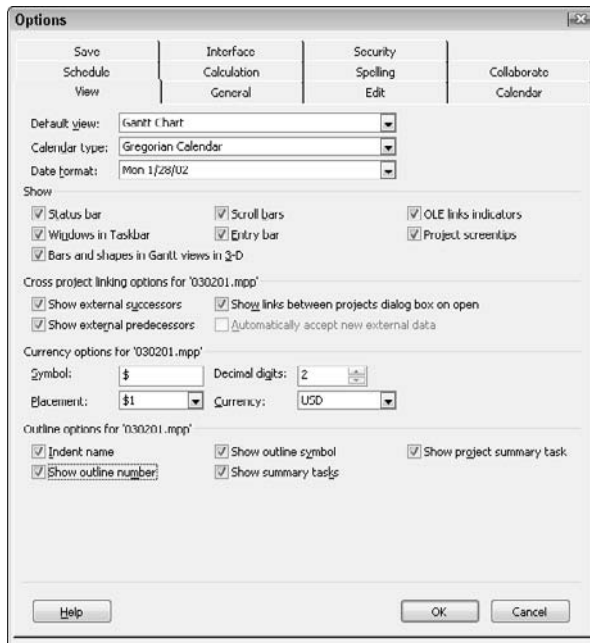

Figure 2-2: Use the Show Outline Number check box to add outline numbers to task names.
3. Select the **Show Outline Number** check box in the **Outline Options** section (see Figure 2-2).